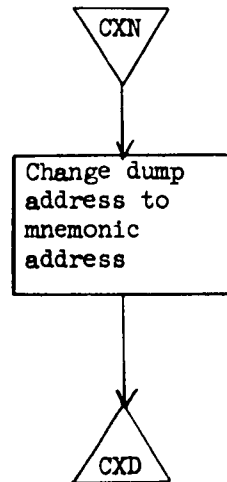

Figure 7.17 CXN
7.2.3.14 CXN Mnemonic dump (Figure 7.17)